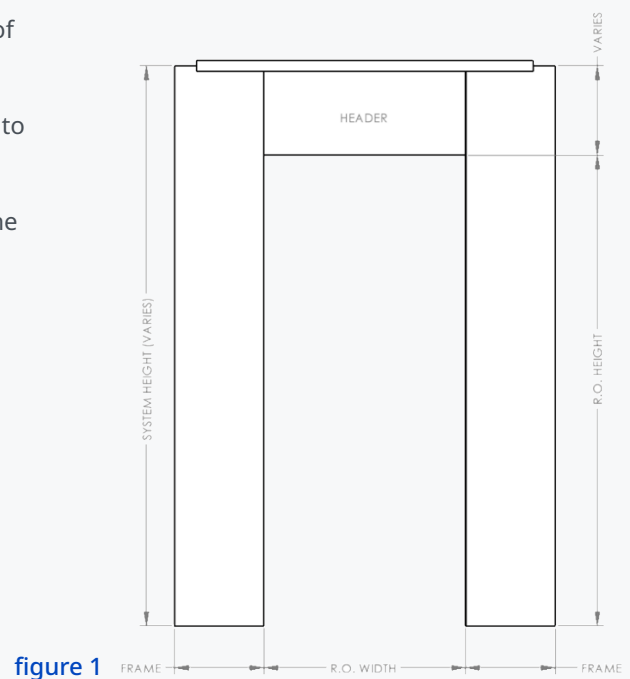

figure 1
- ✦ Measure the rough opening and ensure it matches the size of the full-swing door on the order. **See Figure 1.**